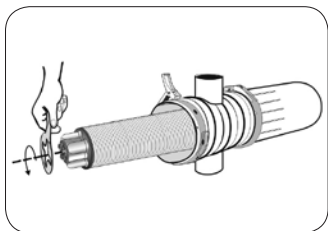

Figure 9
- Replace the tightening cylinder and tighten the butterfly nut until it stops - do not overtighten (Figure 9).